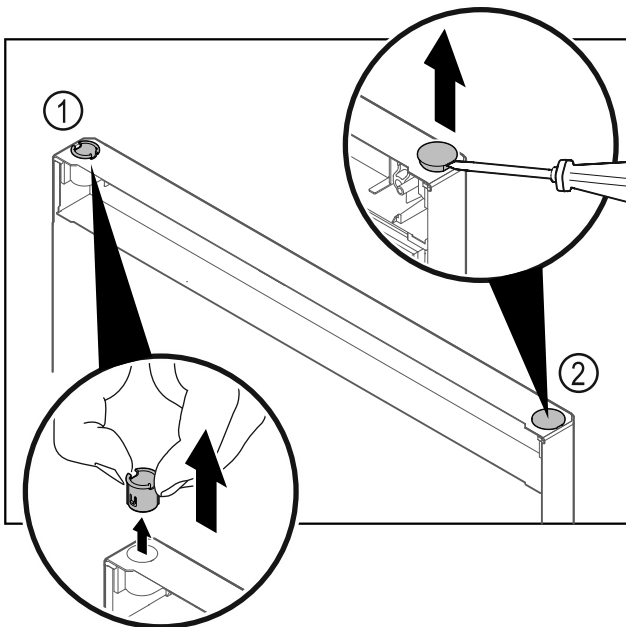

Fig. 25
- ▶ Pull out the hinge bushing Fig. 25 (1) with your fingers.
- ▶ Carefully lift the cover plug Fig. 25 (2) with a slotted screwdriver and pull it out.